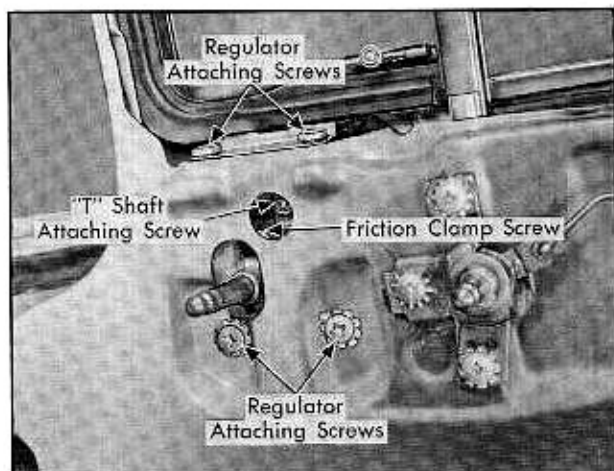

Fig. 3-32 Ventilator Regulator Attaching Screws
1. Excessive play (flutter) of the ventilator at the pivot shaft when the ventilator is open, may be eliminated by tightening the screw which mounts the ventilator "Tee" shaft to the regulator, Fig. 3-32. Tighten carefully to avoid stripping threads in spiral gear shaft.
2. The operating effort required to open or close the ventilator can be slightly increased or decreased by adjusting the friction clamp screw, Fig. 3-32.
2. Remove screws Fig. 3-32, securing regulator to door inner panel and to ventilator assembly.
(32) Front Door Ventilator Removal and Installation